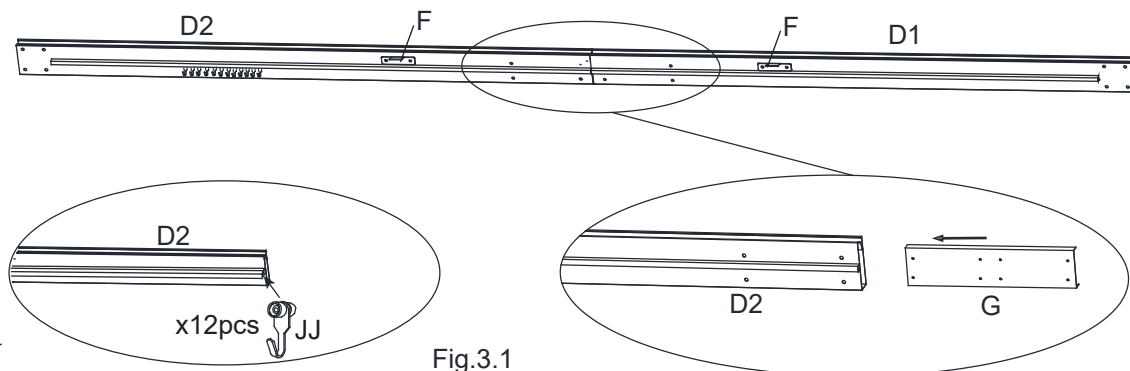

Fig.3.1
3.1. Slide the Hanger (JJ) onto the Long Right Lintel (D2), See.Fig.3.1